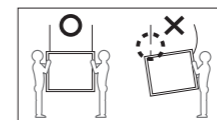

Fig.7
- Please install items in pairs at least to avoid any accidents.(Fig.7)